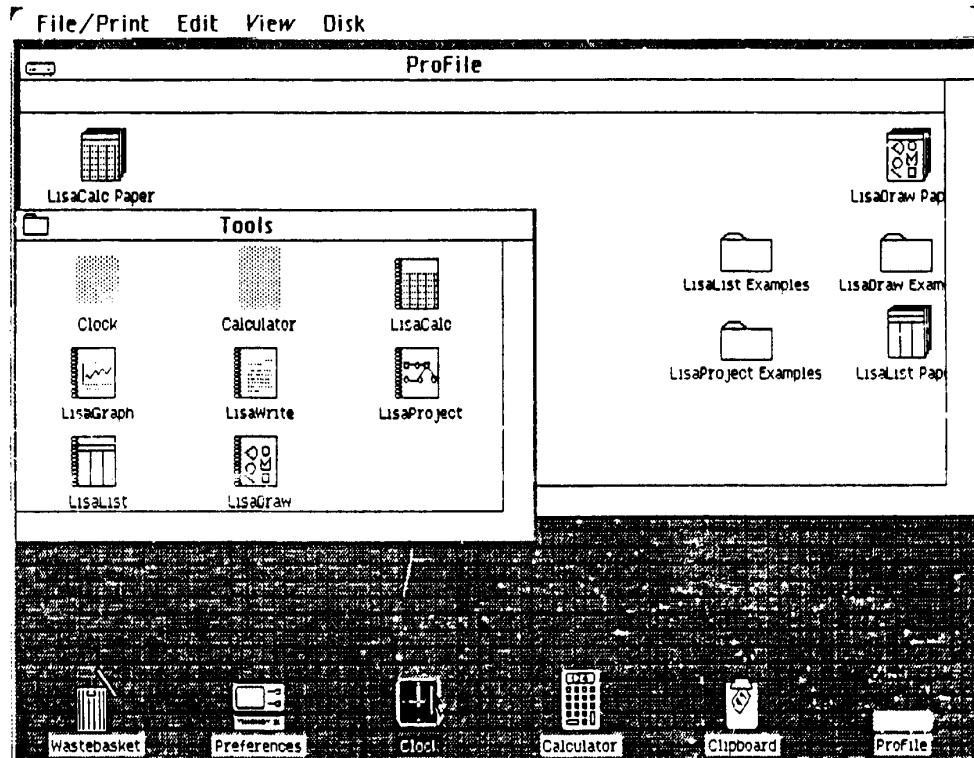

FIGURE 5
9. Move the Tools window into the position shown in Figure 5.
10. Use the mouse to move the Clock and Calculator from the Tools window onto the desktop. Position them as in Figure 5.